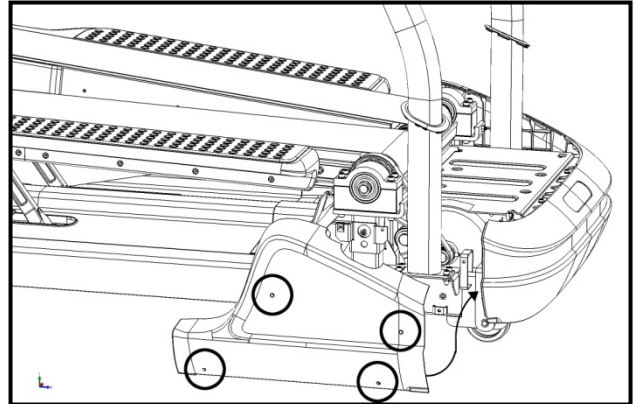

Fig. 25
23. Mount the left & right corner shrouds (Fig. 25) and secure them in place by installing the corresponding four phillips head screws to each shroud at the circled locations.